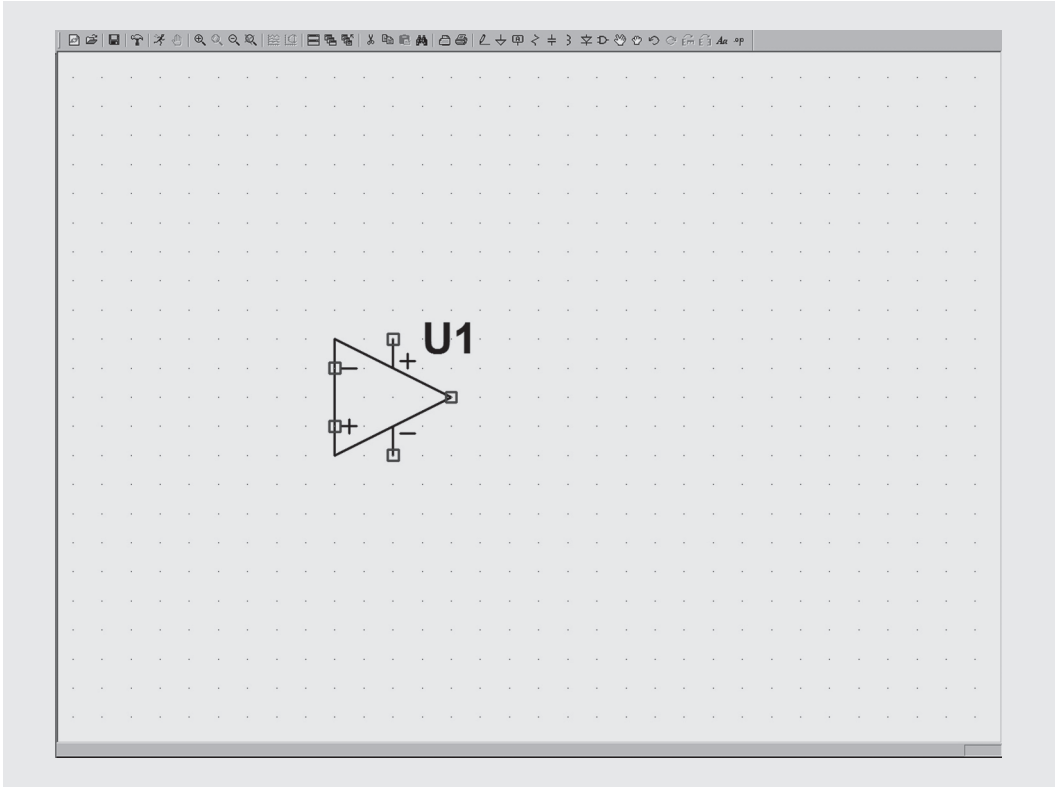

Figure 3.8
4. You automatically come back to the schematic page and your cursor is now shaped like an operational amplifier symbol. Go to the centre of the page and click left to drop the symbol on the schematic, figure 3.8. Another copy of this symbol appears straight away and follows the movement of your mouse.